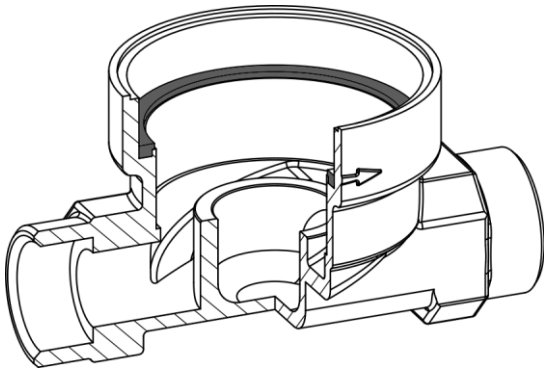

Figure 6. Installation of the profile gasket MUK
1. Insert the enclosed gasket into the EAT with the plan side facing upwards (Fig. 6).